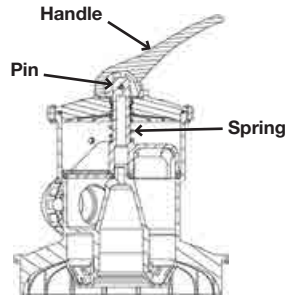

Figure 1
8. Reassemble plug, cover, and handle by compressing spring (See Figures 1 and 2) and reversing procedure "Replacing Cover and Rotor Assembly" above.